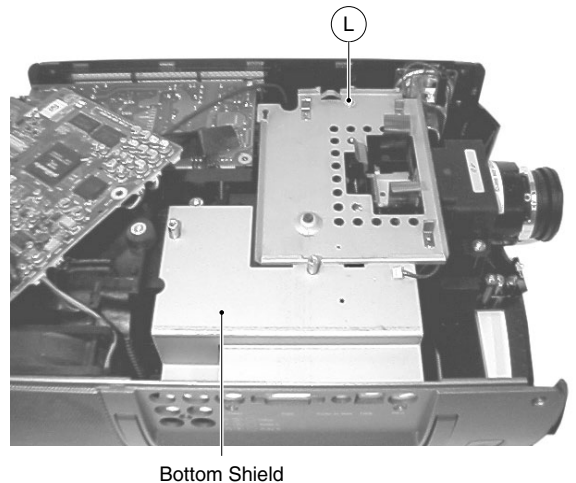

Fig. 9 CL 266450004_053.eps 240402
3. Remove screw “L” (Fig. 9). Now the bottom shield can be removed.